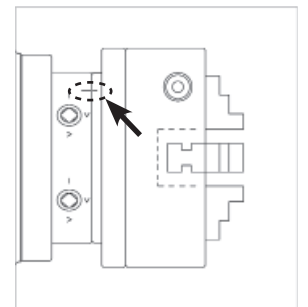

Fig. 28 Chuck timing marks aligned
6. If equipped, align the chuck-to-spindle timing marks (figure 28), and slide the chuck onto the spindle.